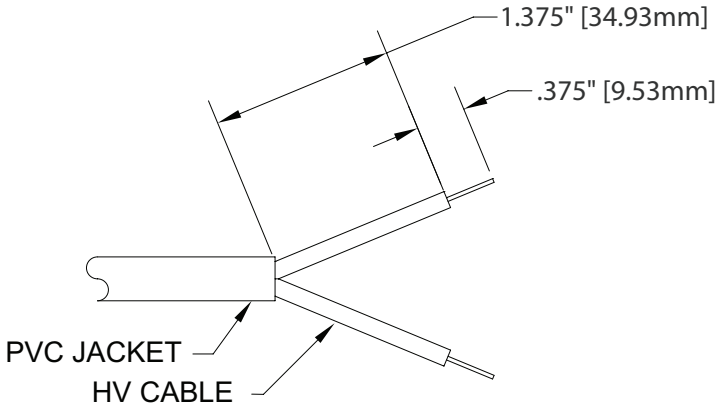

FIGURE 3
2. Cut the high voltage cables to length and trim the black PVC jacket to expose 1 $\frac{3}{4}$ " (1.75" [44.45 mm]) of both high voltage cables insulation as shown in **Figure 3**. Use extreme care not to nick or cut the high voltage cable insulation when removing the black PVC jacketing.